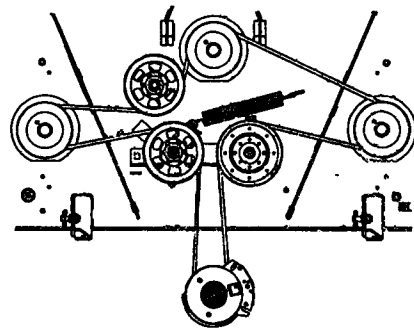

Figure 4-18
6. Place the belt around the idler pulleys removed in step 3 with the "V" side facing in. Once in place, reinstall all the hardware and tighten the flange lock nut to secure the assembly. See Figure 4-18.
7. Route the belt as shown in Figure 4-18 and then reinstall the deck (refer to Deck Installation).